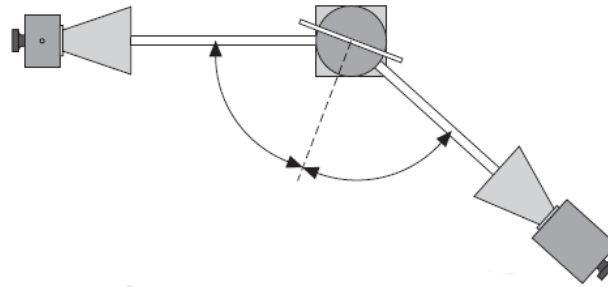

Figure 5: Angles of incident and reflection
7. The angle between the incident wave from the transmitter and a line normal to the plane of the reflector is the angle of incidence (see Figure 5).